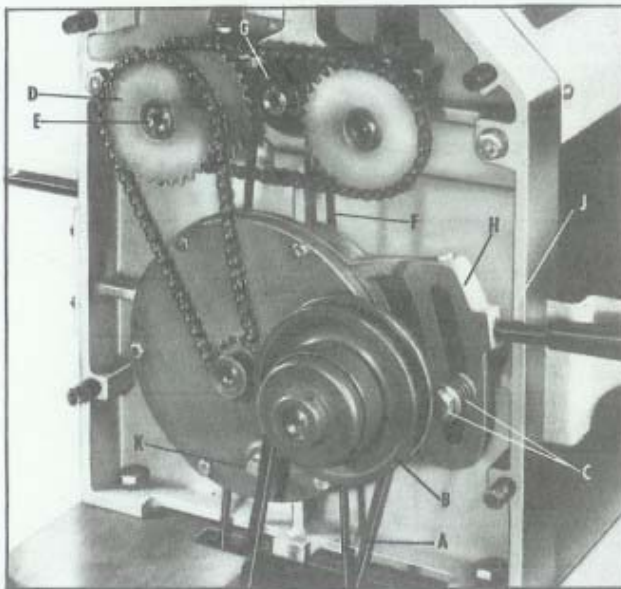

Fig. 32.
4. Remove belt (A) Fig. 32, from the variable speed pulley (B).
5. Remove cap screw, spring and washer (C) Fig. 32.
6. Remove set screw in sprocket (D) Fig. 32, and slide sprocket off shaft (E).
7. Remove cutterhead belt (F) from the cutterhead pulley (G) Fig. 32.
8. The cutterhead belt (F) Fig. 32, can now be removed from the machine by maneuvering the belt between the sliding gear box casting (H) and the frame (J).
10. After the belts are assembled, replace sprocket (D), cap screw, spring and washer (C) Fig. 32, and adjust belt tension by following instructions under ADJUSTING BELT TENSION
The gear box should be filled to the oil level plug (K) Fig. 32, with SAE 140 or SAE 600-W Oil.